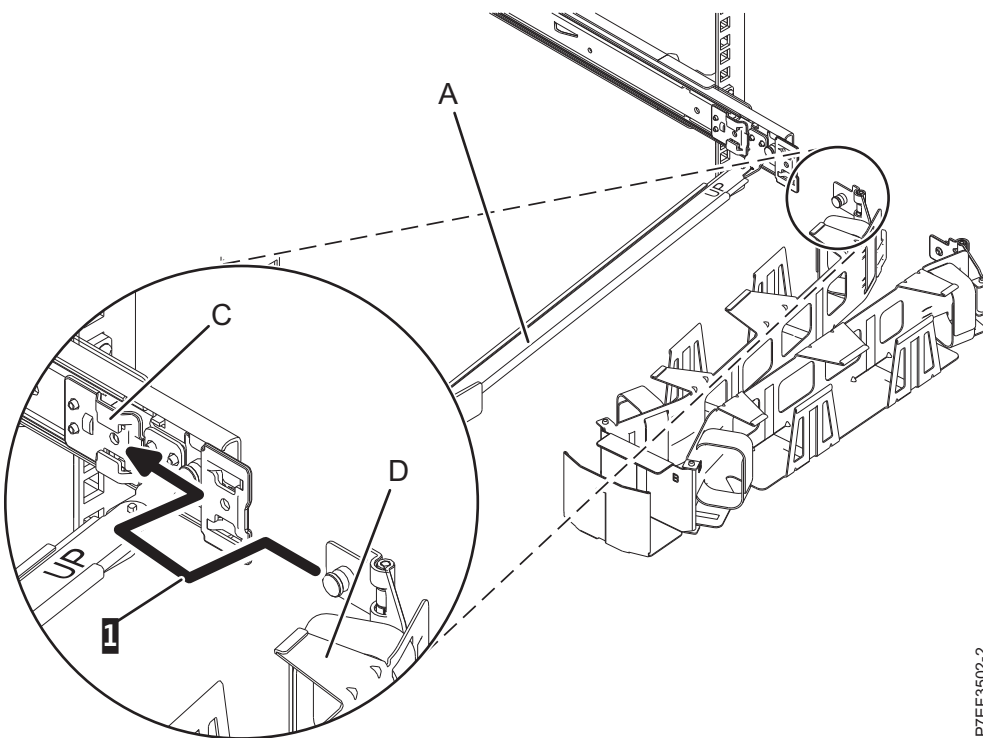
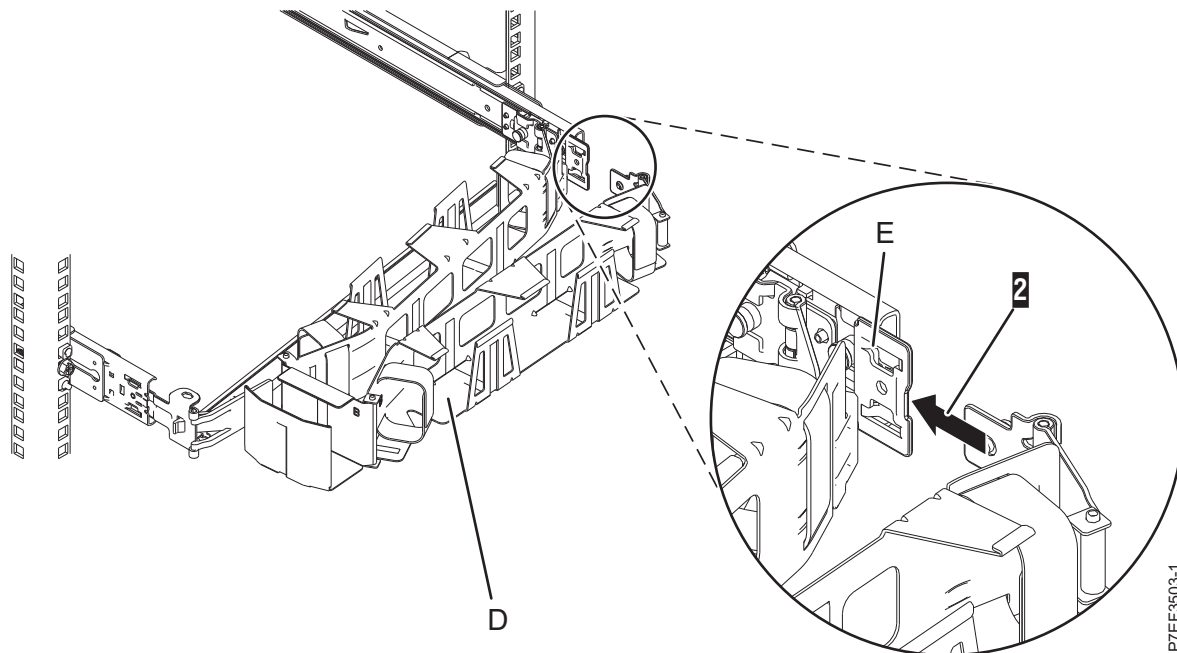

Figure 15. Sliding the cable-management arm tab into the mounting bracket slot
Figure 16. Sliding the other cable-management arm tab into the extension bracket
7. Place the cable-management arm (D) on the support arm (A). Slide the first cable-management arm tab into the slot on the mounting bracket (C). Push the tab until the spring-loaded latch snaps into place. Slide the other cable-management arm tab into the extension bracket (E) on the outside of the right slide rail (2). Push the tab until the spring-loaded latch snaps into place. For details, see Figure 15 and Figure 16 on page 13.